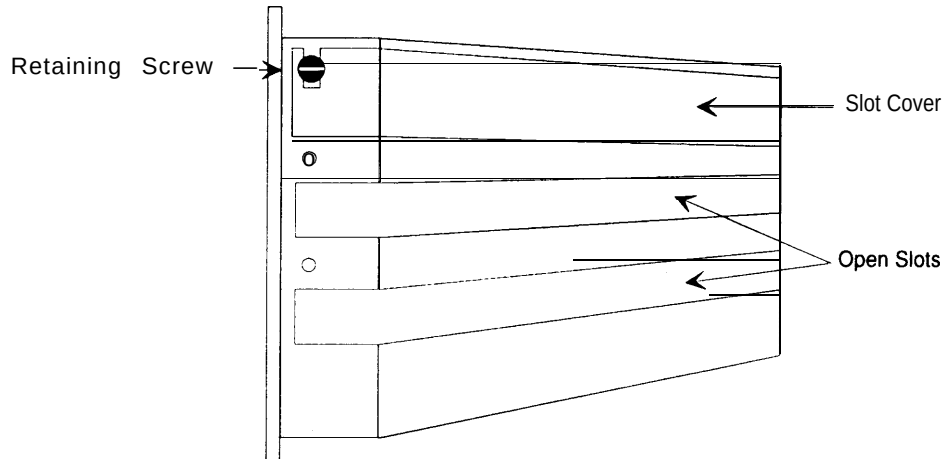

Figure 3-19. Removing the Slot Cover or Securing the Board
6. Remove the screw holding the slot cover in place and remove the slot cover as shown in Figure 3-19. (Save the slot cover for use if the board is removed.)
9. Secure the board in place by using the same screw in the mounting bracket that was removed from the slot cover as shown in Figure 3-19.